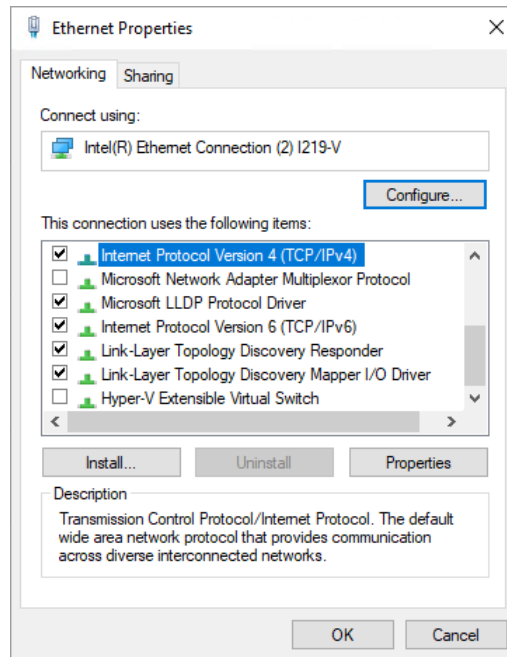
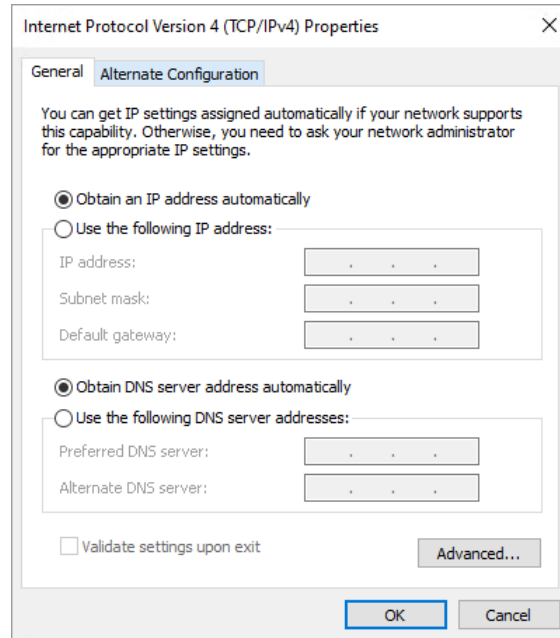
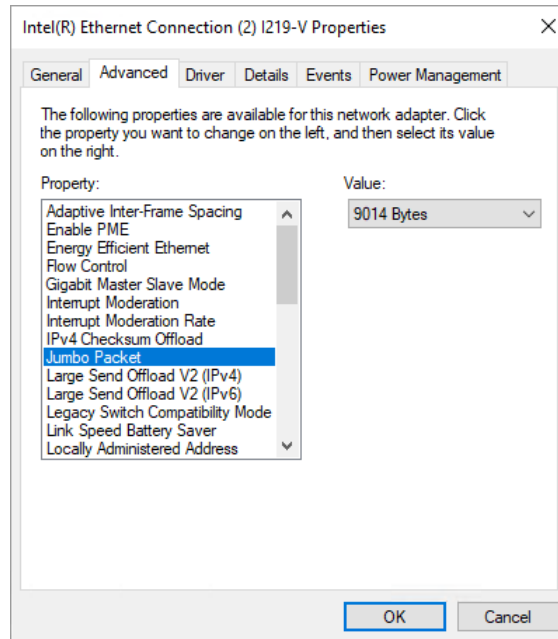

Figure 1.5: Local Area Connection Properties
Figure 1.6: TCP/IP Properties
Figure 1.7: Advanced Network Adapter Properties: Jumbo Frames
- By default, Photonfocus GigE Vision cameras are configured to obtain an IP address automatically. For this quick start guide it is recommended to configure the network adapter to obtain an IP address automatically. To do this, select Internet Protocol (TCP/IP) (see Fig. 1.5), click the Properties button and select Obtain an IP address automatically (see Fig. 1.6).
3. Open again the Local Area Connection Properties window (see Fig. 1.5) and click on the Configure button. In the window that appears click on the Advanced tab and click on Jumbo Frames in the Settings list (see Fig. 1.7). The highest number gives the best performance. Some tools however don't support the value 16128. For this guide it is recommended to select 9014 Bytes in the Value list.
Under most circumstances, configuring the camera stream channel packet size (SCPS) to be as large as possible will result in optimal performance. The SCPS should be as close as possible to, but smaller than, the jumbo frame size configured in the NIC (see Fig. 1.5) A SCPS larger than the jumbo frame size will result in packet fragmentation on the network, which will degrade performance. This configuration can be achieved in two ways: